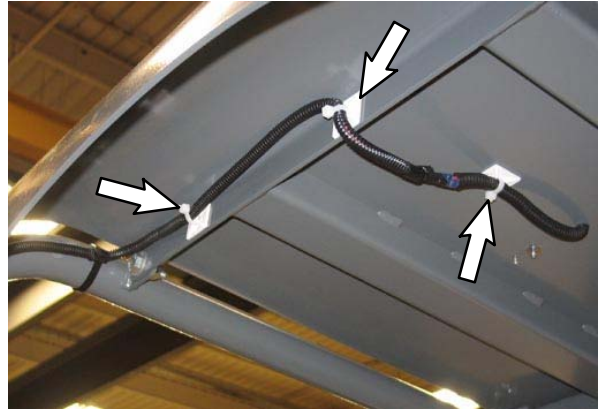

FIG. 3
13. Use three cable tie mounts (13) and three cable ties (14) to secure the overhead guard light wire harness (9) to the overhead guard. (Fig. 3)